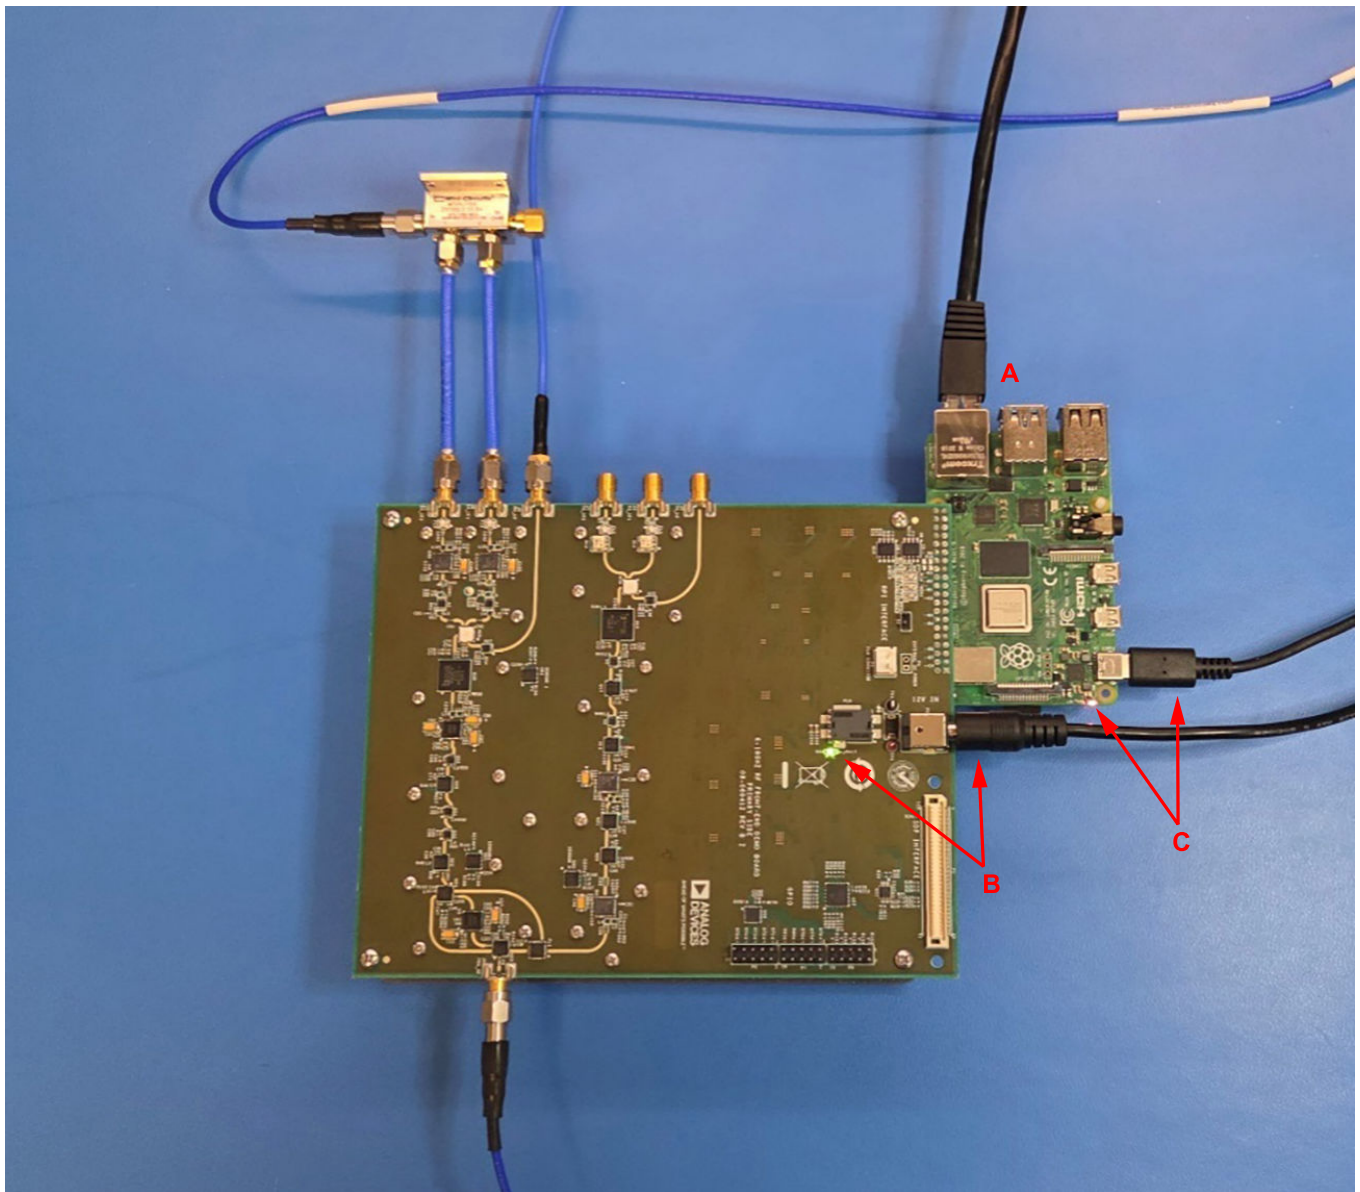

Figure 19. Plug In Raspberry Pi USB AC/DC Converter
7. Connect the Ethernet cable on RPi to the test PC (as shown in Figure 19 **Label A**).